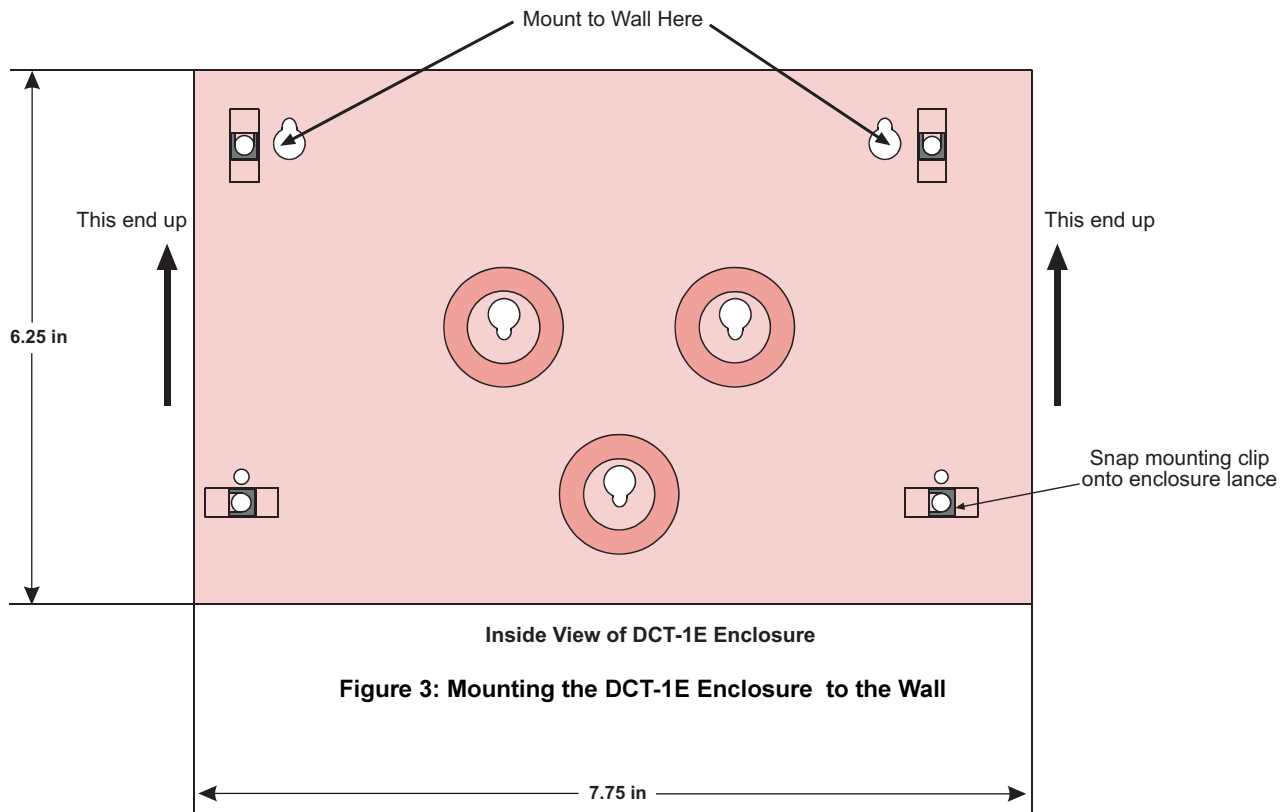

Figure 3: Mounting the DCT-1E Enclosure to the Wall
- 2) Use the DCT-1E's enclosure as a template to mark the location of the mounting holes in desired wall. Hang enclosure from wall with appropriate installer-supplied mounting screws. See Figure 3.